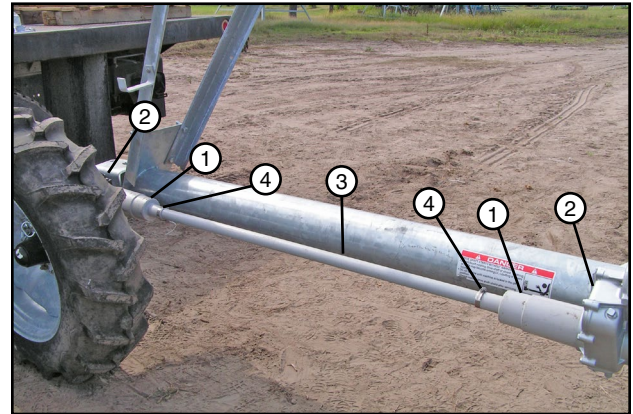

Figure 39-1 1. U-Joint Shield 2. Gearbox 3. Drive Shaft Shield 4. Clamp
- Slide the U-joint shield over the U-joint and position approximately 1/4 in (6.3 mm) away from touching the gearbox. Secure the U-joint shield to the drive shaft shield with a clamp. See figure 39-1.